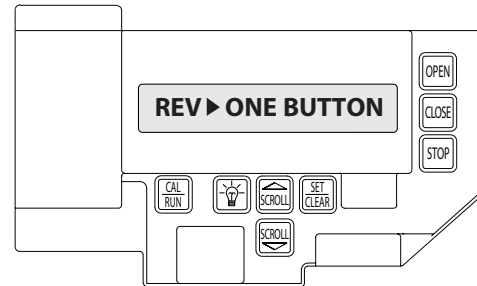

Figure 2
- 2) Press SCROLL  key until display reads "GDO V# > #####." **Figure 2**